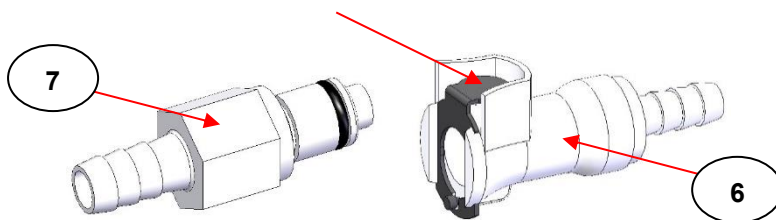

Fig 2. Quick Connect Body and Insert Couplings for Cooling Water Black Silicone Tubing
By convention, any supply of cooling water is introduced into the lower cooling block (3) and then passes to flow through the top cooling block (2). The black silicone tubing attached to the lower cooling block (3) for water introduction is supplied finished with a Quick Connect **body** coupling (6). The black silicone tubing attached to the top cooling block (2) for water flow out is supplied finished with a Quick Connect **insert** coupling (7). (See **Fig 2**.)